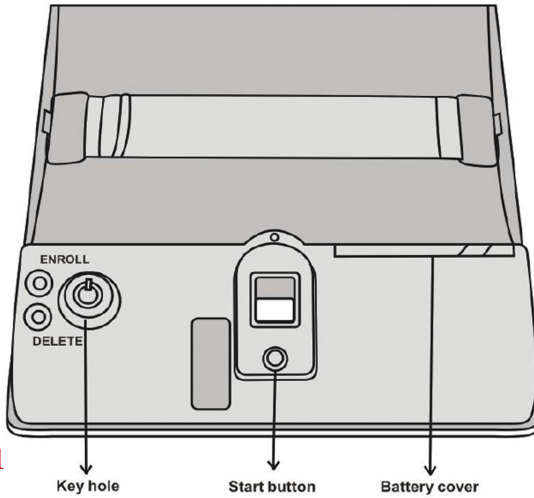

Figure 1
- 2) Insert the key into the lock and turn the key clockwise (to the right) until you hear a click (about a quarter turn). (See Figure 1)